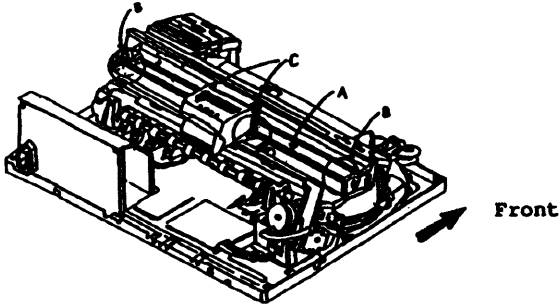

Figure 2
4. Wipe off the grease applied to the carriage shaft (A), both ends of the carriage shaft (B), and the carriage bearings (C) of the carriage, using a paper towel. (Figure 2)